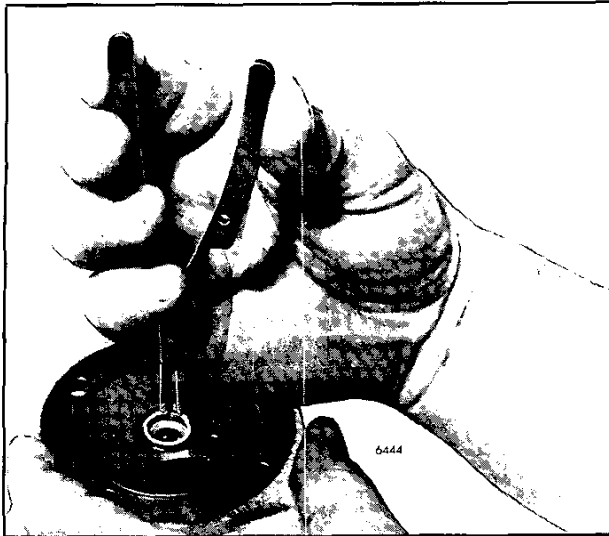

Fig. 17 - Installing Snap Ring
1. Install a new snap ring, bearing and snap ring in the turbine end of the center housing using snap ring pliers J 28507 (Fig. 17).